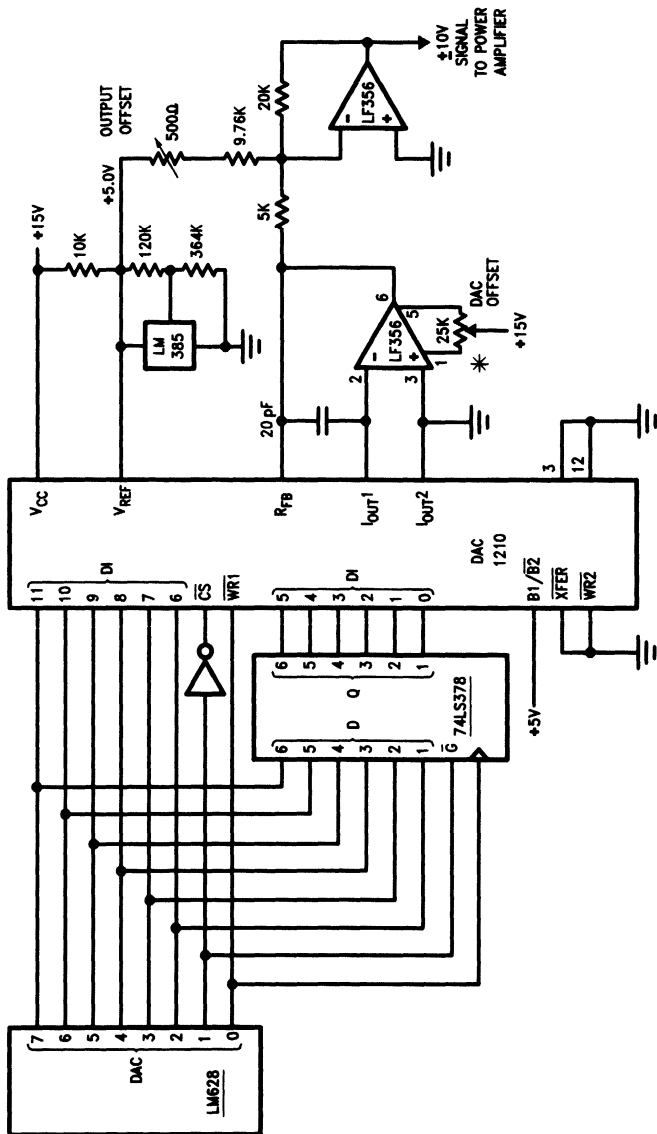

FIGURE 14. Interfacing a 12-Bit DAC and LM628
*Figure 14* illustrates use of a 12-bit DAC with the LM628. The 74LS378 hex gated-D flip-flop and an inverter demultiplex the 12-bit output. DAC offset must be adjusted to minimize DAC linearity and monotonicity errors. Two methods exist for making this adjustment. If the DAC1210 has been socketed, remove it and temporarily connect a 15 k $\Omega$  resistor between Pins 11 and 13 of the DAC socket (Pins 2 and 6 of the LF356) and adjust the 25 k $\Omega$  potentiometer for 0V at Pin 6 of the LF356.